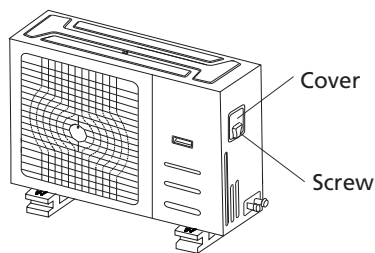

Fig. 10.1
- Remove the outdoor unit's electric cover. If there is no cover on the outdoor unit, disassemble the bolts from the maintenance board and remove the protection board. (See Fig. 10.1 and 10.2.)